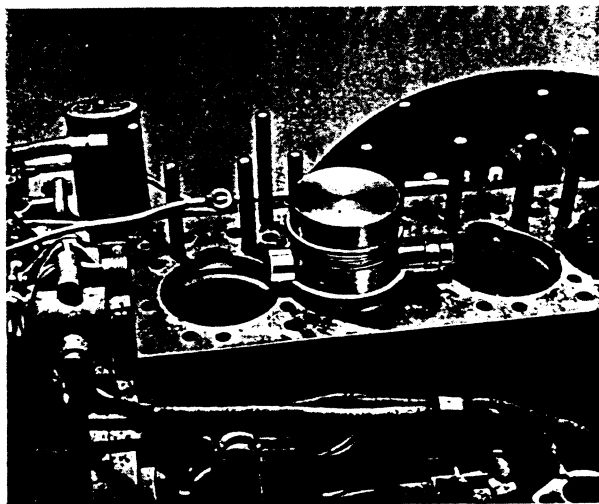

FIG. 138.
pliers, and tap out gudgeon pin with drift FT.111, Fig. 138.
5. With piston skirt supported in Service Tool remove circlip from each end of gudgeon pin and tap out gudgeon pin with drift FT.111, Fig. 138.